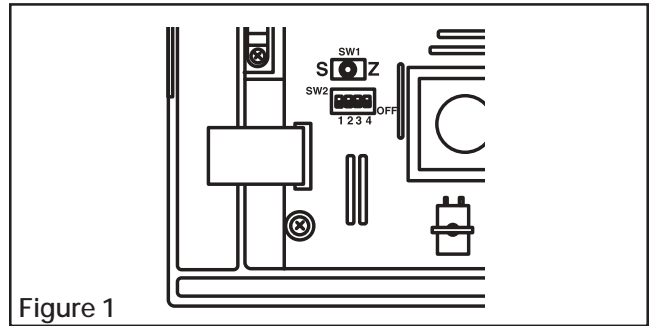

Figure 1
1. Find DIP Switch SW2 on the printed circuit board mounted to the front panel (See Figure 1); move switch number 3 of SW2 to the up (on) position.